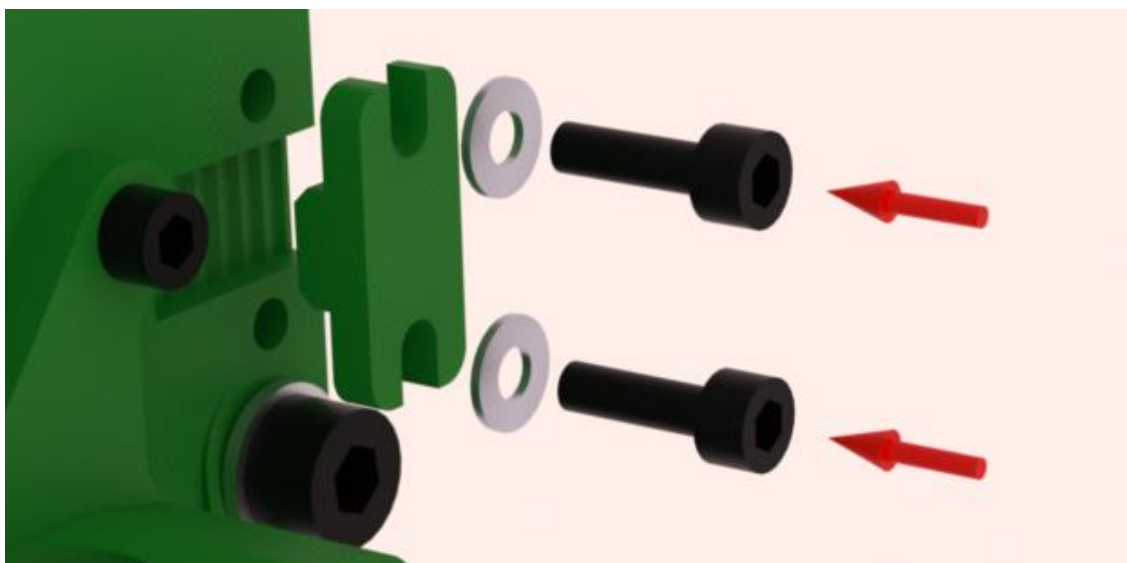

Figure 39: Belt Clamp Installation
- Attach four belt clamps to the front and rear print carriage plates as shown in Figure 39.